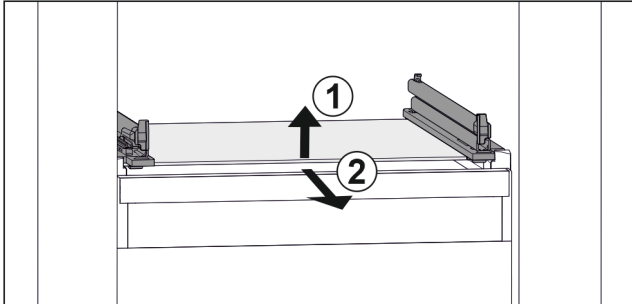

Fig. 114 Example illustration of glass shelf
- ▶ Lift glass shelf at the front. Fig. 114 (1)
- ▶ Take out glass shelf to the front. Fig. 114 (2)